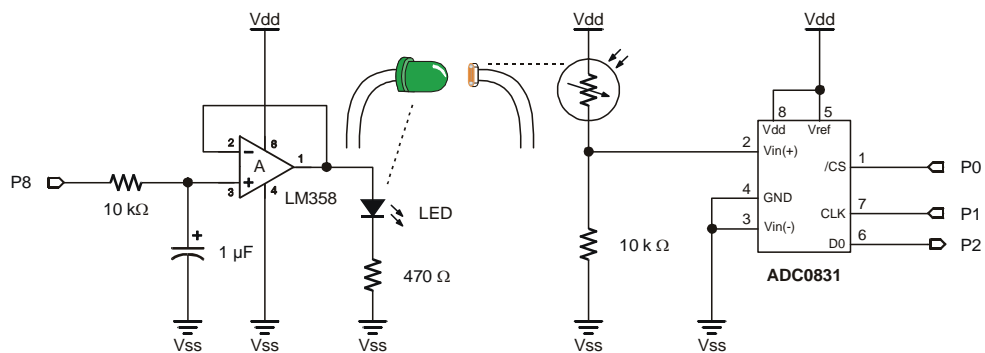

Figure 7-10: Transmitting an Optical Signal.
Next, add a photoresistor in series with a 10 k Ω resistor as shown in Figure 7-10. The positive lead of your BASIC Stamp DVM should be connected to the node where the photoresistor connects to the 10 k Ω resistor. This is a voltage divider output, and as the resistance of the photoresistor varies, so will the voltage seen at the output of the voltage divider. Also, point the top of the yellow LED directly at the face of the photoresistor as shown.
6. If the measured voltage in a voltage divider with a photoresistor as shown in Figure 7-10 is 2.3 volts, what is the value of the photoresistor?